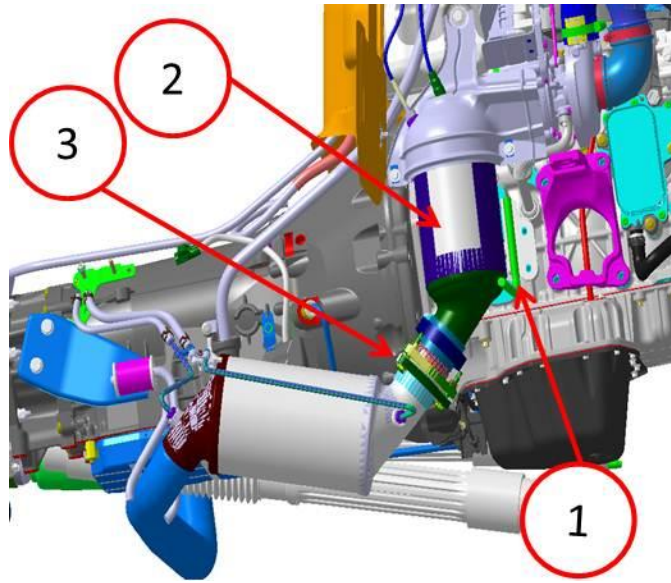

Fig. 2 Catalytic Converter
9. Remove the (3) bolts holding the catalytic converter assembly to the DPF assembly (Fig. 2).
11. Remove the 2 bolts holding the bracket to the engine(Fig. 2).